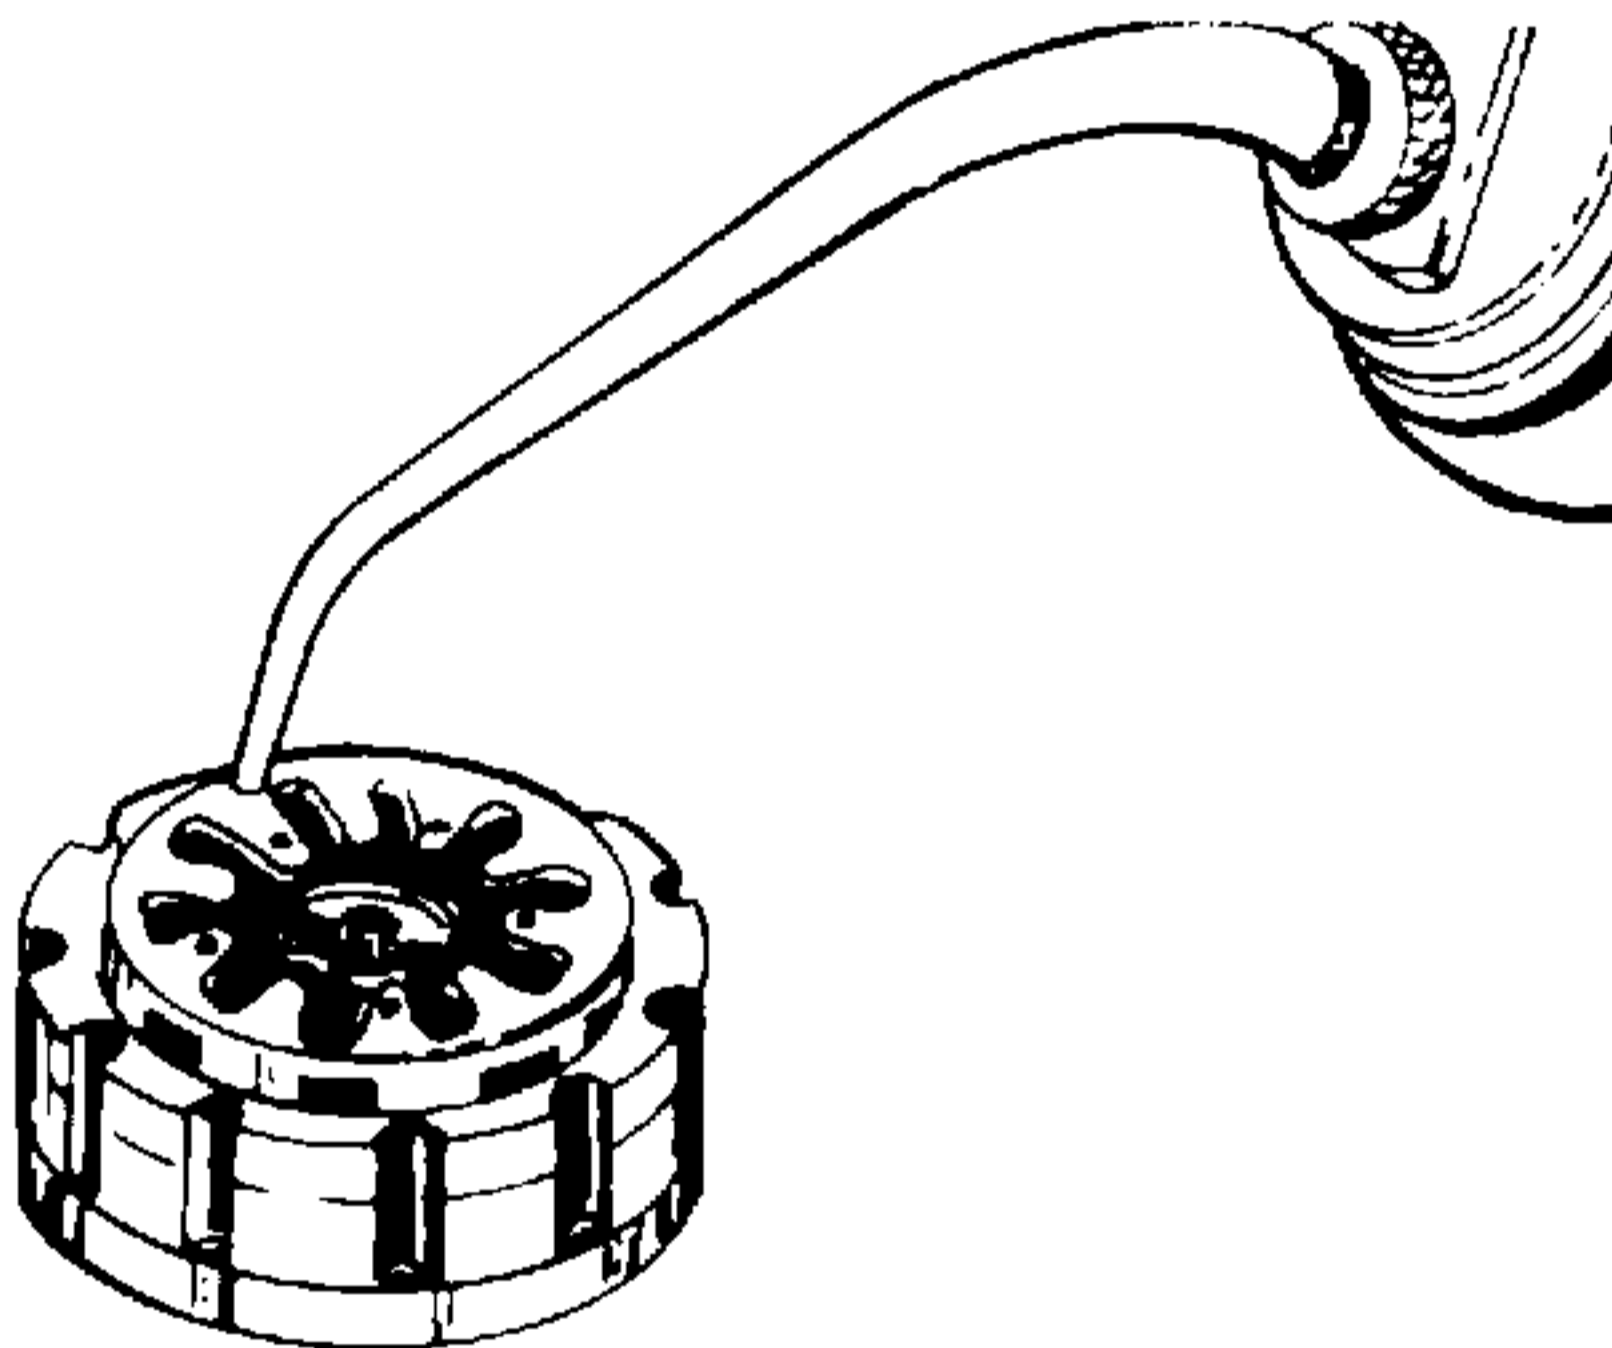

Figure 4-59. Lubricating the Commutator.
13. Place a few drops of oil into each recess in the commutator (19). See Figure 4-59.